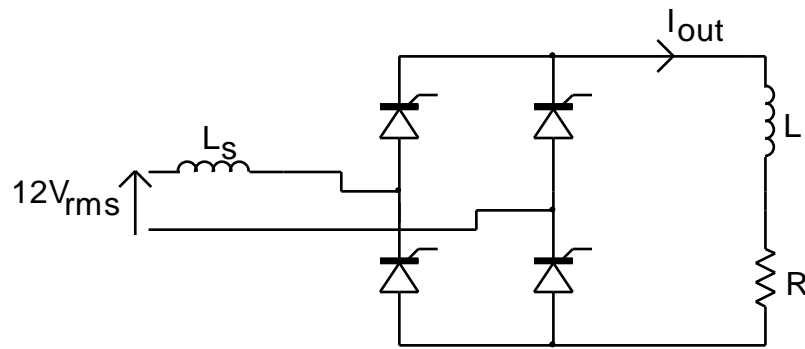

Figure 2.
- b. Given that the circuit in figure 2 is used in a welding supply, and that the 12V (50Hz) supply is derived from the secondary of a transformer having a leakage inductance,  $L_s$ , of  $100\mu\text{H}$ , calculate the required firing angle for the thyristors given that the load resistance,  $R=0.05\Omega$ , and the output current is required to be 150A. (Assume the load inductance is sufficient to keep the output current continuous).
- c. Calculate the output voltage and current if all of the thyristors in figure 2 were replaced by diodes.